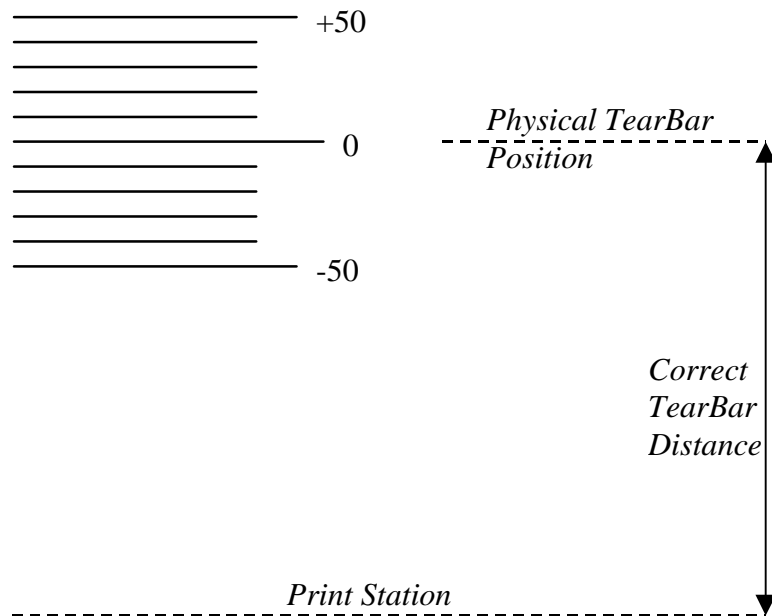

Figure 34. Correct Tear Bar Distance
8. Press **ENTER** to select the desired value. An asterisk appears next the selected value and a scale prints to indicate the tear bar distance in relation to the tear bar. For correct tear bar distance, the zero should align with the tear bar. See Figure 34.